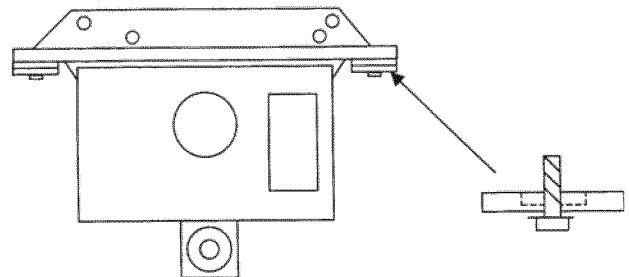

Fig. 3 - Inducer Spacers
2. Insert screw through the spacer and reinstall in the furnace grommet. See Fig. 3.